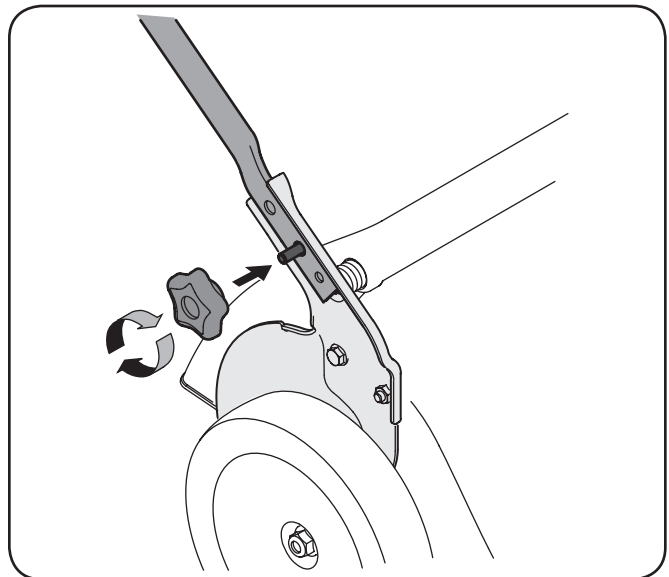

Figure 3-2
2. Tighten star knobs securing lower handle to handle brackets. See Fig. 3-2. Make certain the lower handle is seated securely into the handle mounting brackets.